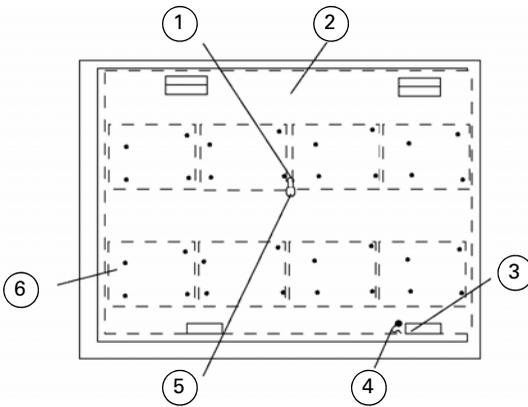

Fig. 6: ANC-8 - Chassis Plate
- 2 Assemble the chassis plate into the housing and secure using fixing screw, see Fig. 6.
- 3 Connect the chassis plate earth lead to the housing, see Fig. 6.